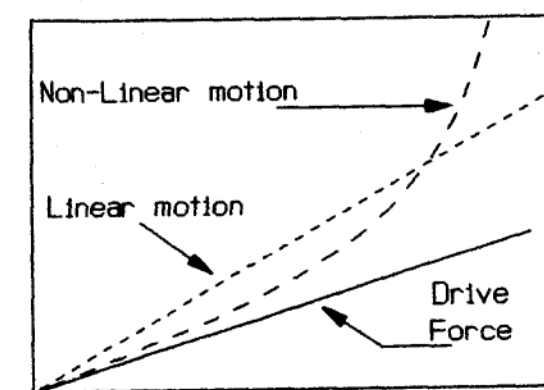

FIGURE 2-3: Types of motion.
**AUDIO TERMINOLOGY.** Nonlinear distortion occurs when a linearly increasing voltage or other force results in exponential rather than linear motion. Figure 2-3 graphically depicts **linear** and **nonlinear** motion.